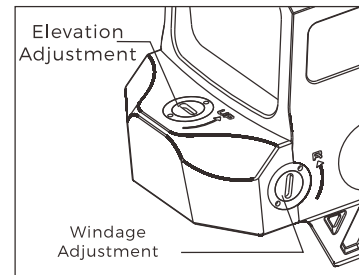

Fig 8
- 2) The elevation adjustment is located on top of the rear section of the housing and the windage adjustment is located on the right side of the housing. Windage and Elevation adjustments can be made using the included tool. (see Fig8).